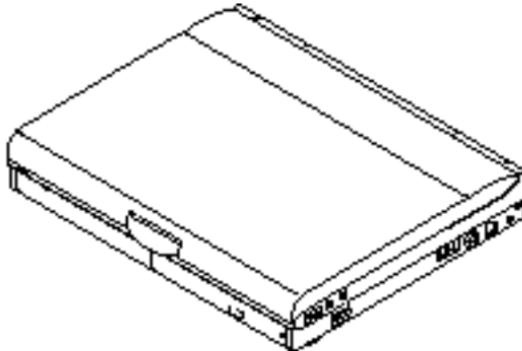

Figure 1-1 LifeBook 400 Series Notebook
- LifeBook 400 Series from Fujitsu. (Figure 1-1.)